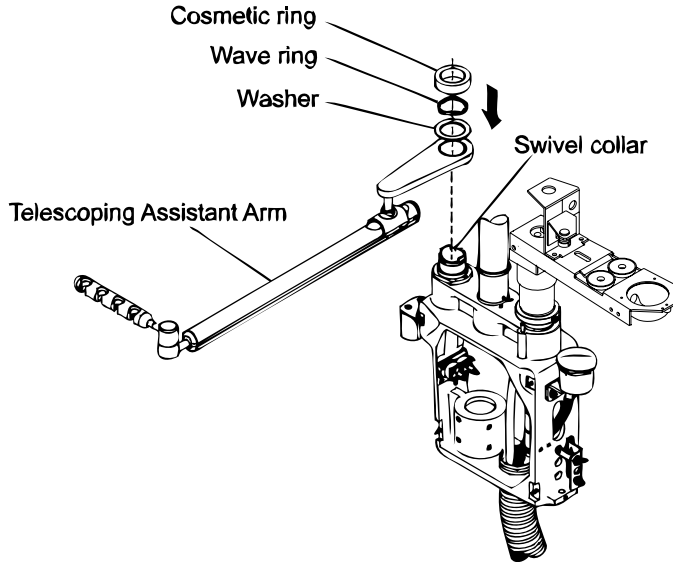

Figure 3
5. If equipped, locate the telescoping assistant's arm assembly from the delivery system box. Lower the arm assembly over the swivel collar as shown in figure 3.